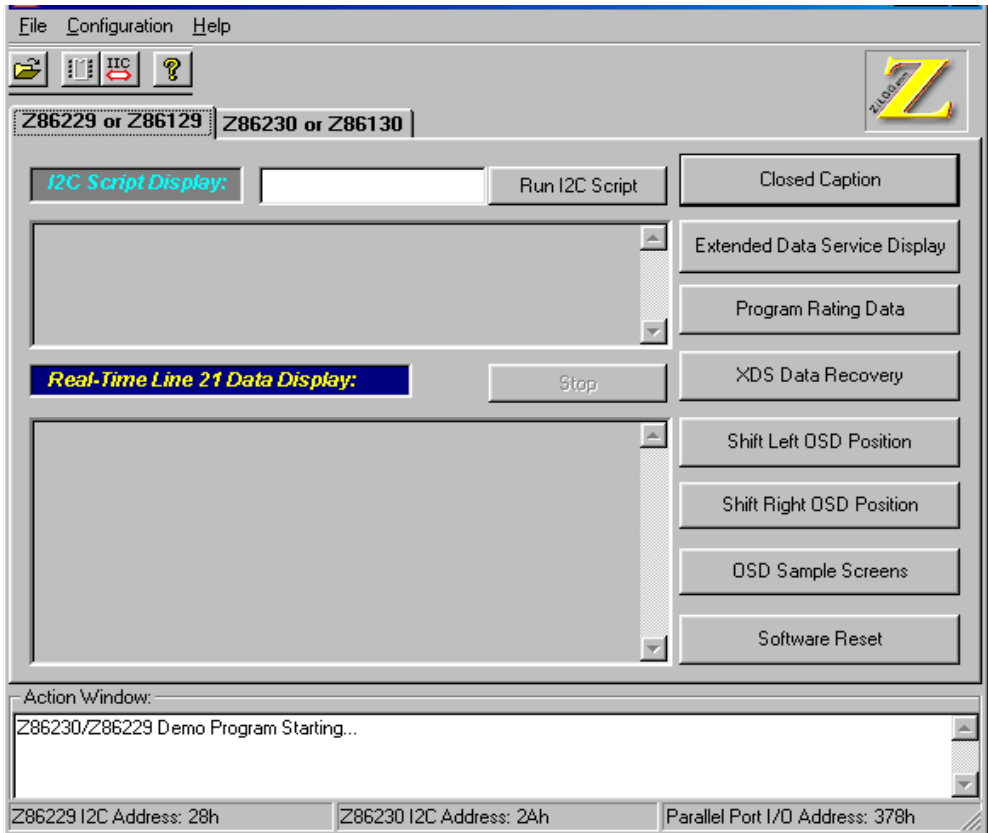

Figure 4. Z86229/Z86230 Demo Program Main Screen
- Figure 4. Z86229/Z86230 Demo Program Main Screen 8
When the installation is complete, click the Z86230db.exe icon to run the program. The following screen appears (Figure 4).